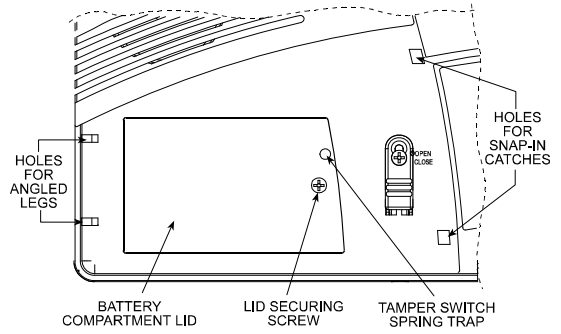
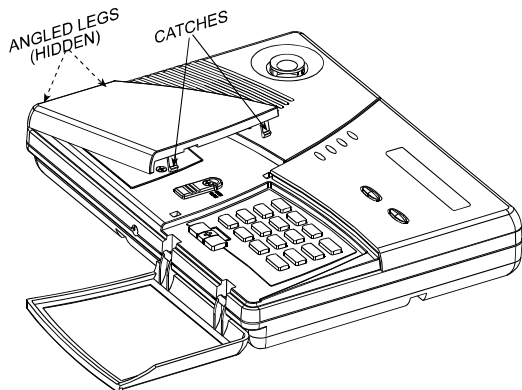
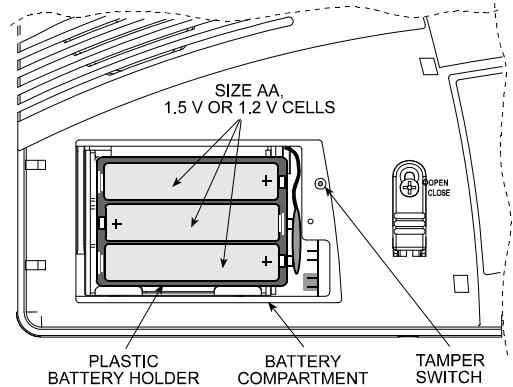

Figure 11. Battery Compartment Lid
Figure 10. Removing the Left Hand Cover
Figure 12. Battery Compartment and Battery Holder
- E. Remove the screw that secures the battery compartment lid (Fig. 11), swing the lid up and pull it away. You have thus gained access to the battery holder (see Fig. 12).
- D. Swing the cover up as shown in Figure 10, then pull free the angled legs at the left and put the cover away. The inner lid will now be in full view (see Figure 11).